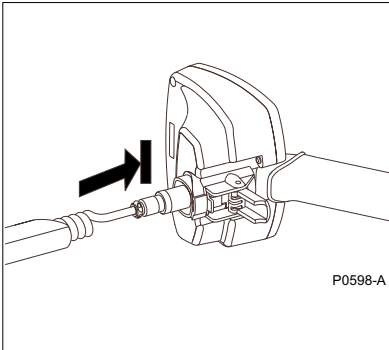

Figure 2.8 Inserting shaft assembly into control box
- STEP 4** (Figure 2.8) Making sure that the control box camlock lever is in the released position, push the upper shaft firmly into the control box until you feel it has reached the back of the control box.